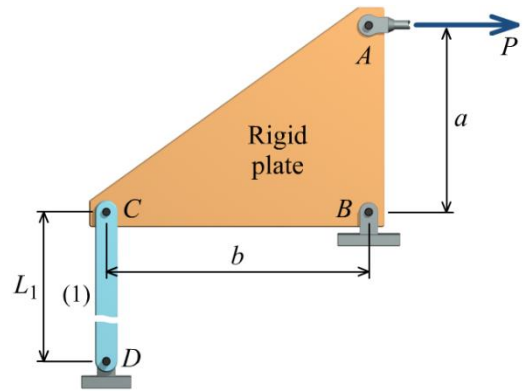

FIGURE P3.18
P3.18 The rigid plate in Figure P3.18 is supported by bar (1) and by a double shear pin connection at B . Bar (1) has a length of $L_1 = 60$ in., a cross-sectional area of $A_1 = 0.47$ in.², an elastic modulus of $E = 10,000$ ksi, and a coefficient of thermal expansion of $\alpha = 13 \times 10^{-6}/^\circ\text{F}$. The pin at B has a diameter of 0.438 in. After load P has been applied and the temperature of the entire assembly has been *decreased* by 30°F , the total strain in bar (1) is measured as $570 \mu\epsilon$ (elongation). Assume dimensions of $a = 12$ in. and $b = 20$ in. Determine: